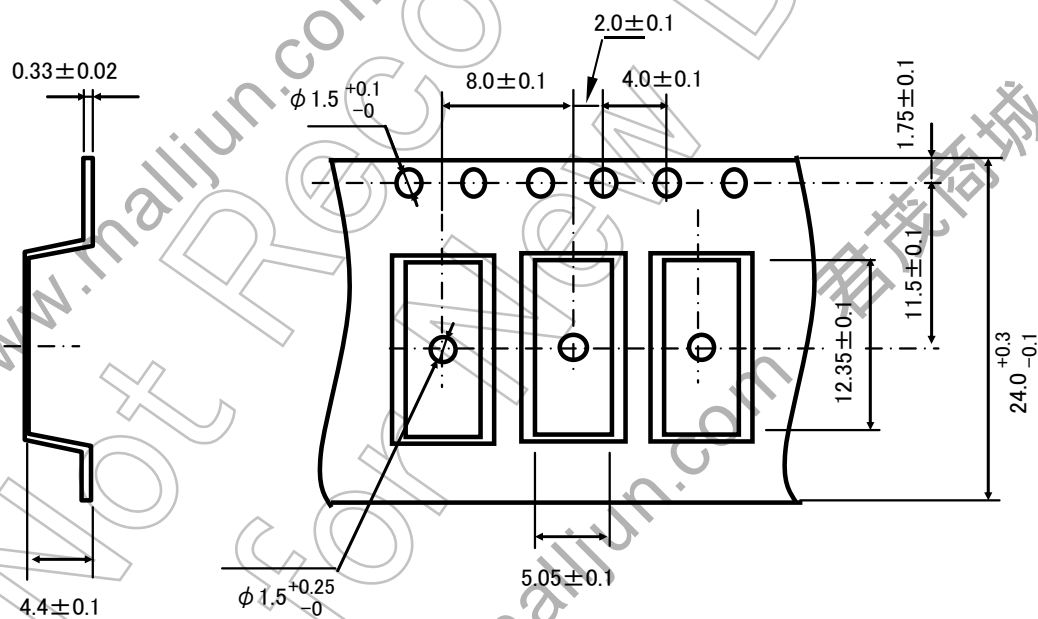

Figure 3 Tape Forms
(1) Tape material: Plastic
(2) Dimensions: The tape dimensions are as shown in Figure 3.